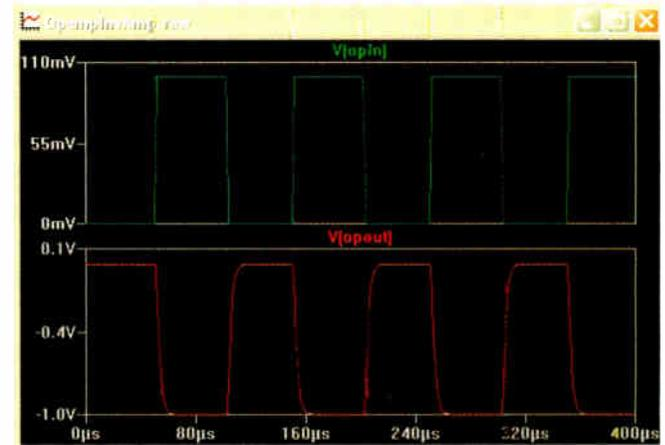
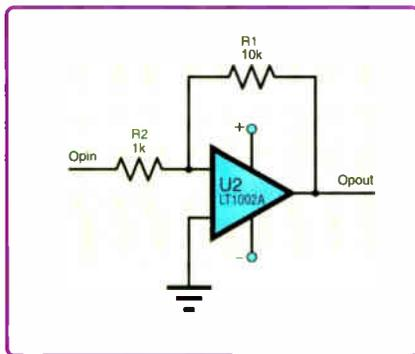
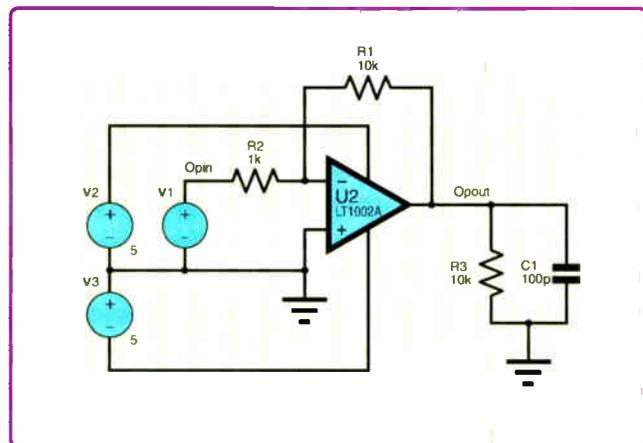

Fig.3. Example simulation results showing waveforms for the circuit in Fig.2
Fig.1. Circuit schematic in LTSpice – this is not sufficient for simulation
Fig.2. Schematic from Fig.1 with power supply, signal source and output load added. This circuit can be simulated
Once you have models for all the components you can enter your design, usually by drawing a schematic on the screen, but text descriptions (called *netlists* in SPICE) can also be used. However, you have to enter more than just your basic schematic. For example, Fig.1 shows a simple op amp circuit, which is sufficient for showing what your design is, but not sufficient for simulation. A simulator is a bit like a virtual test bench. You need power supplies, signal sources and test equipment, as well as the circuit, if anything interesting is going to happen.
In Fig.2 is shown the circuit from Fig.1 with the extras added. V2 and V3 are two 5V voltage sources used to model the power supply. V1 is a voltage source that is being used as the simulation equivalent of a signal generator (or other signal source). R3 and C1 were added to provide a load for the circuit's output. Simulating the load may be critical to getting the right results; in other cases it will be less important.
The load components in Fig.2 are just an arbitrary example. In practice you will have
**Transient Analysis:** Voltages and currents in the circuit are calculated as a function of time. Time-varying input signals must be applied to the circuit to obtain results different from a DC analysis. The results are usually displayed as a set of waveforms as you might see on an oscilloscope. Fig.3 shows a typical result from a transient analysis for the circuit in Fig.2.